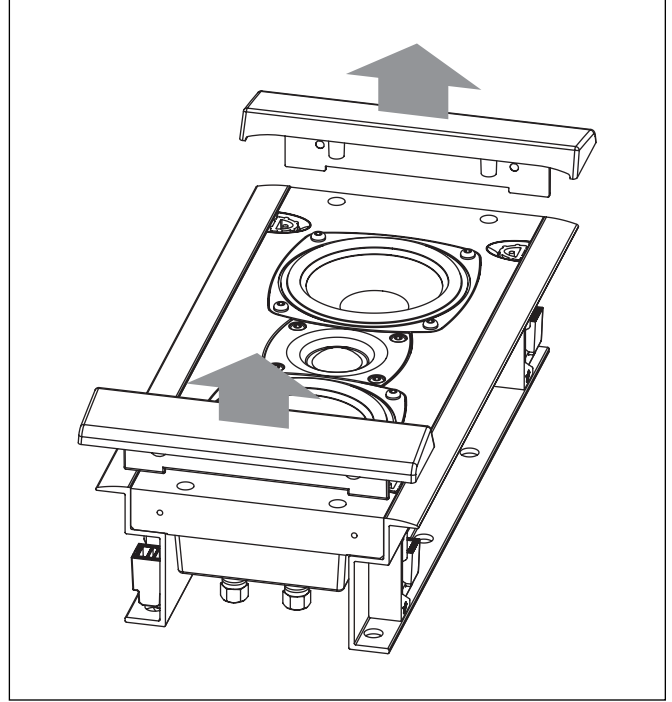

Figure 12. Removing the end caps step 3.
- 3 The end cap may now be safely removed (see figure 12).